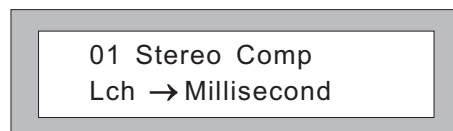

Fig.13
7. CROSSOVER/DELAY: First press it and then turn encoder 4 to select the sub-menu of CROSSOVER and DELAY (as fig.13).